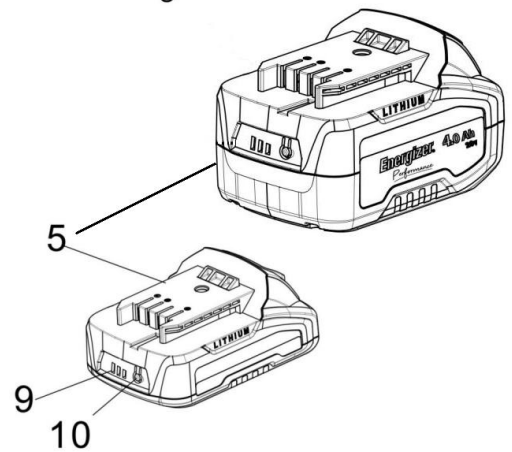

Fig 1a
2) Battery capacity indicator (Fig. 1a)